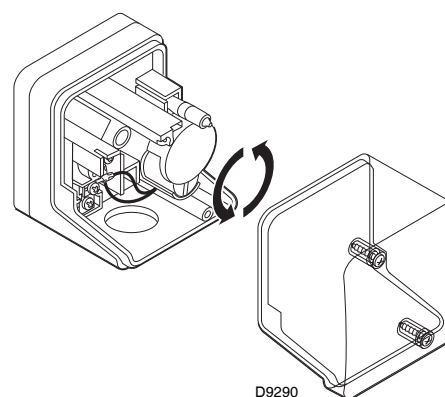

Fig. 38
- Adjust the minimum gas pressure (Fig. 38) switch to the start of the scale.
Adjust the minimum gas pressure switch (Fig. 38) after having performed all the other burner adjustments with the pressure switch set at the start of the scale.